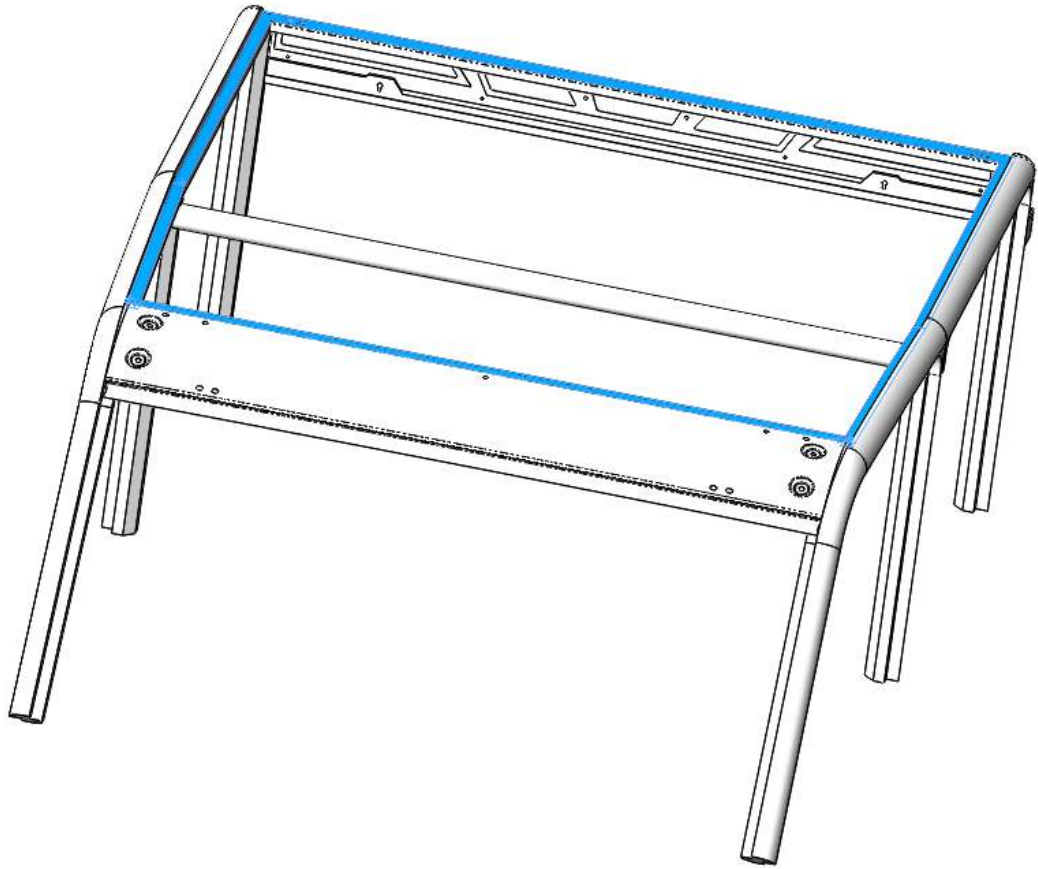

Figure 5: Areas to apply foam tape.
2. Clean the surface of the cage to remove dirt and residue before installing the foam cab sealing tape. Use a mild detergent or paint safe solvent and allow to completely dry. Place the supplied foam tape across the surfaces highlighted in Figure 5 below.